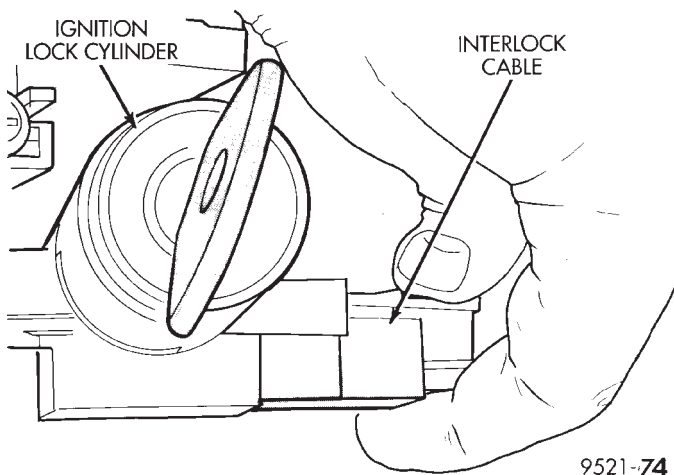

Fig. 19 Interlock Cable and Connector
- (16) Verify vehicle ignition is on. Grasp the interlock cable clip and connector. Remove the cable from the interlock housing (Fig. 19).
- (17) Unclip the cable retaining clip located along the cable housing.